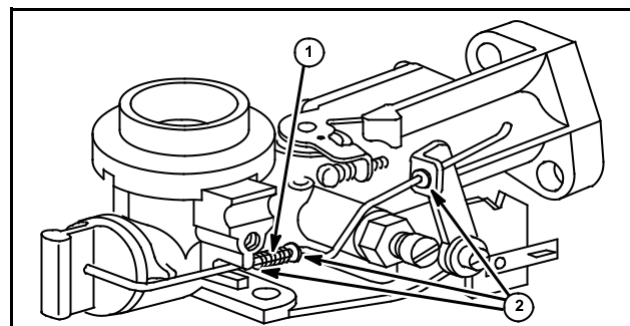

Fig. 81
1. To assemble, slip washers (2) and spring (1) over choke link, Fig. 81.